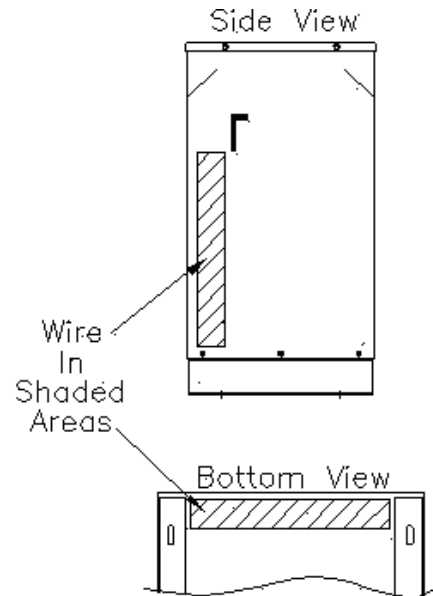

Figure 2 – Side & Bottom View of Ventilated unit
7. Route wires into enclosure using the predefined access holes or by creating holes as needed. On ventilated units the wires should enter the unit below the terminals and in front of the coil. See Figure 2